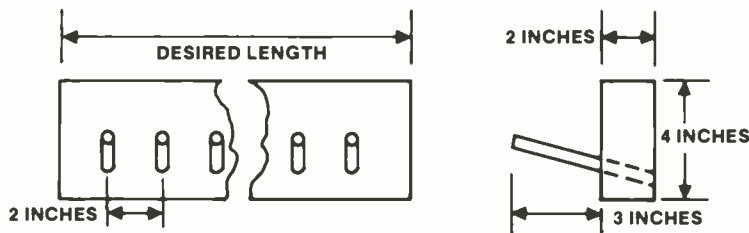

Figure 1: An Example of a cable holder constructed from 2 x 4 lumber and wooden dowels.
angle on a two-by-four-inch length of wood provide excellent results. As can be seen from Figure 1, space has been left above each dowel for identification by adhesive labels. Larger dowels can be used, as expected, for larger cables. Each two-by-four-inch piece can be conveniently mounted and removed from any blank wall spaces. Large bundles of cables can be kept tied with versatile Velcro straps (available from: Velcro, USA, Inc., 521 Fifth Avenue, New York, NY 10175. (212) 953-0900.). This company manufactures two unique new products: the Nylon Back Strap Fastener (great for cable ties), and the Nylon Velstrap Fastener. The minimum OEM order, from regional offices, is 100 pieces, and the product comes in a wide variety of lengths, widths, and colors.